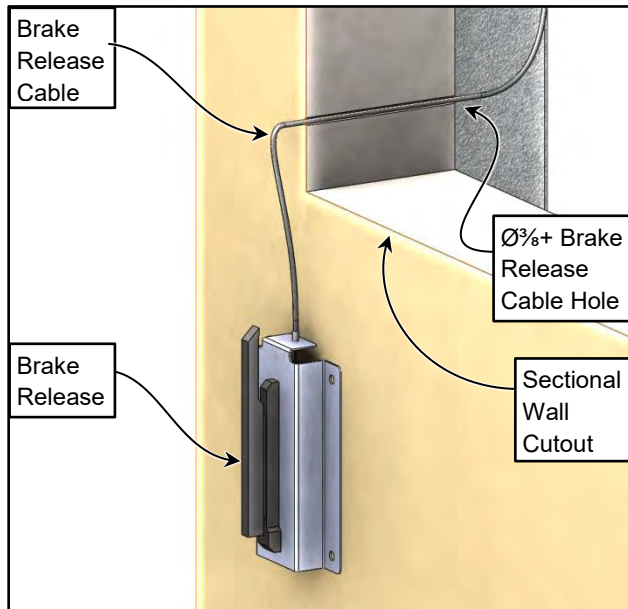

Figure 28
1. One end of the steel cable was connected to the remote mounted brake release at the factory. For shipping, the other end has been coiled for installation in the field. Securely route the brake release cable up the wall along the side column to about 12" above where the front mount brake release is or would be located. (See Figure 28)
2. Using the front brake release or it's mounting holes located on the front of the side column as a placement guide for mounting the remote brake release, drill at least a  $\varnothing 3/8$ " hole through the wall to the opposite side just above it. Route the cable through the wall to the opposite side. (See Figure 28)
3. Mount the brake release to the wall. Finish routing the cable through to the brake release on the drive motor assembly. (See Figure 28)